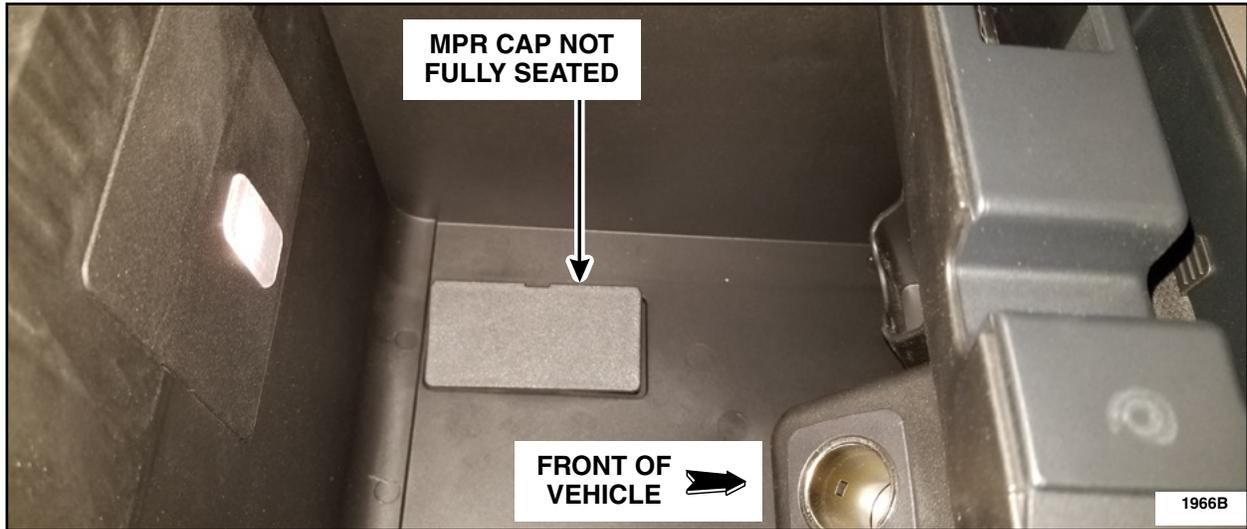

FIGURE 2
3. Inspect the MPR cover. Is it flush, fully seated and not removable by hand? See Figure 2.